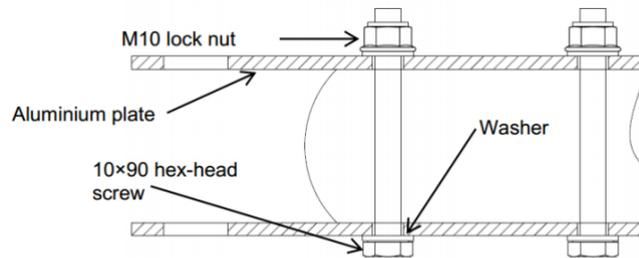

Figure 3: Crossbeam pre-assembly
Start by pre-assembling the crossbeams ③. Attach the aluminium plates to each crossbeam using the hex-head screws, lock nuts and washers as shown in figure 3.